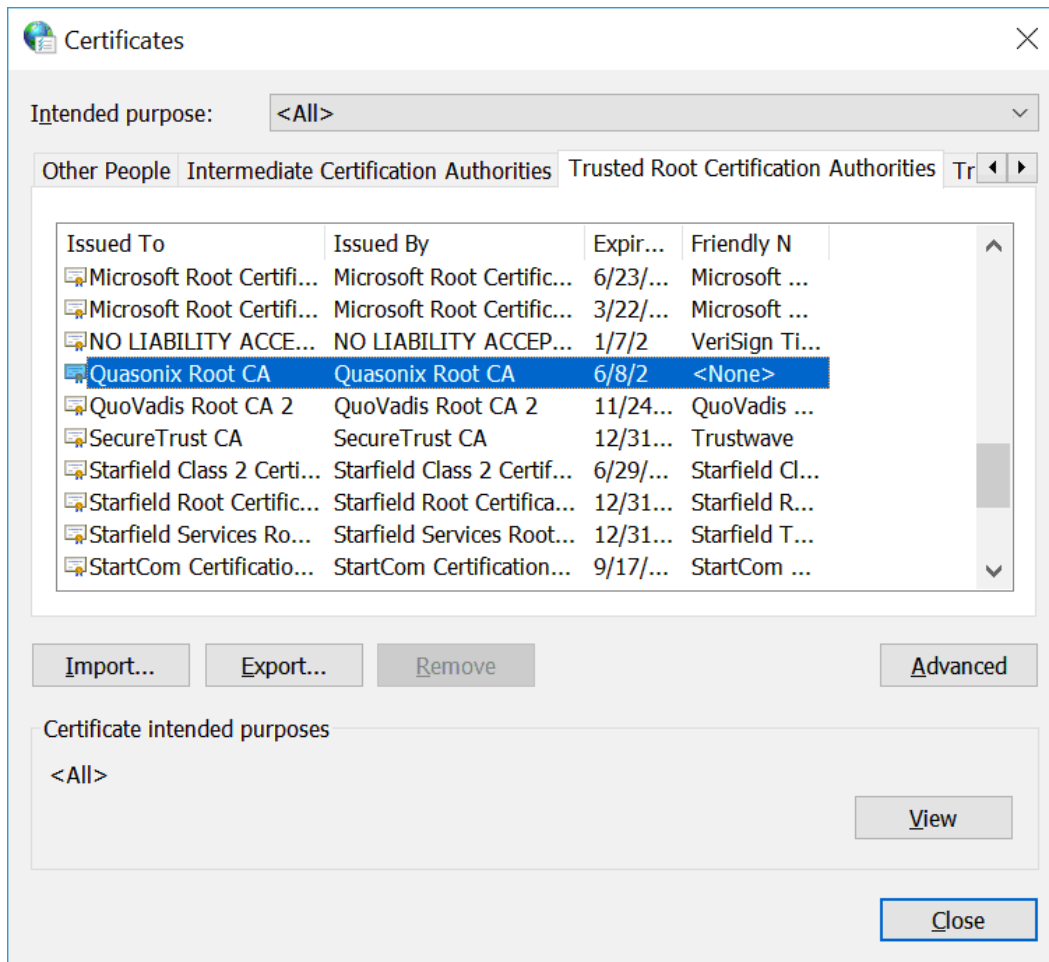

Figure 342: Certificates, Quasonix Certificate Imported
10. View the list of Certificates under Trusted Root Certification Authorities, and verify that Quasonix Root CA is listed, as shown in Figure 342.